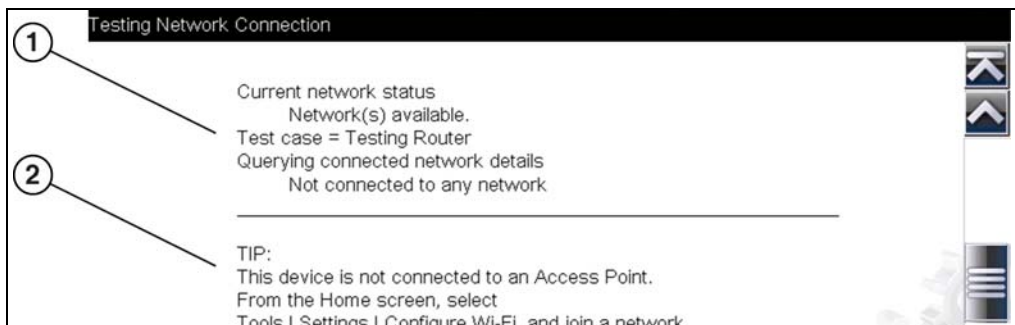

Figure 13-5 View Summary
4. If a connection issue(s) is present, select **View Summary** to review the results. The summary information is helpful if you are experiencing difficulties with your connection (Figure 13-5). Scroll through the summary information to review the test results for each system and Tip messages for the current connection issue. See *Connection Tests - Troubleshooting* chart in Wi-Fi Troubleshooting and Status Messages, on page 103 for additional information.